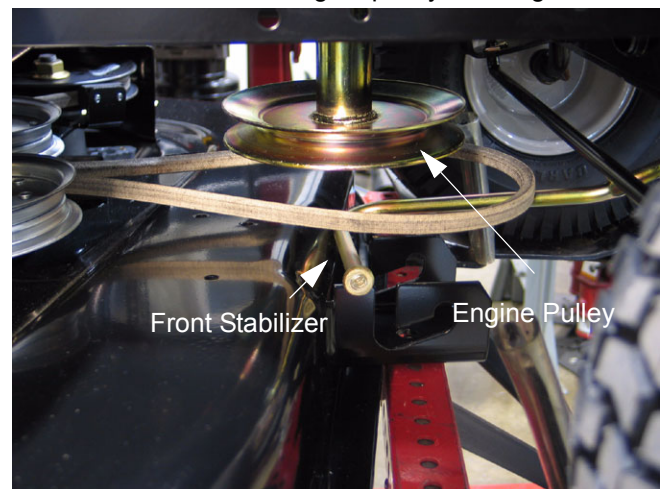

Figure 4
- 1.6. Slide the deck forward and remove the deck belt from around the engine pulley. See Figure 4.